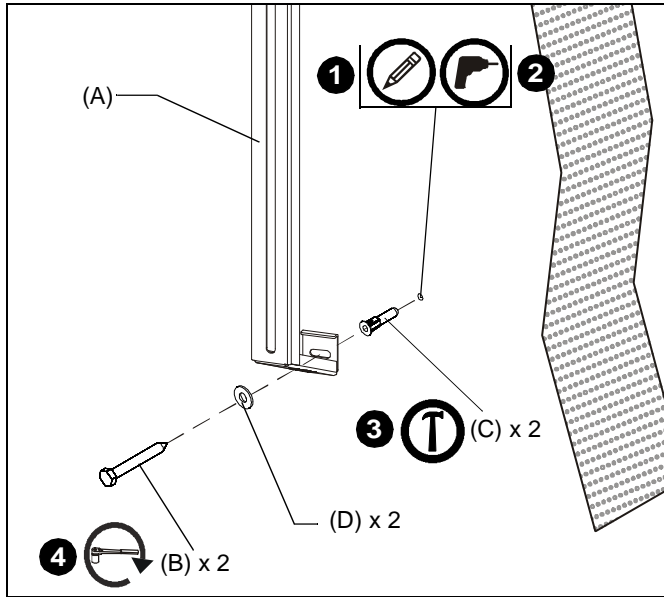

Figure 4
1. Mark the wall through the fixed wall leg (A) on each WBM2 upright. (See Figure 4)
2. Drill one 1/4" x 2-3/4" pilot hole at each marking. (See Figure 4)
3. Install a Toggler (C) into both pilot holes using a hammer. (See Figure 4)
4. Use two 1/4-20 x 2-1/2" lag bolts (B) and two 1/4" flat washers (D) to attach both fixed wall legs (A) to anchors in wall. (See Figure 4)